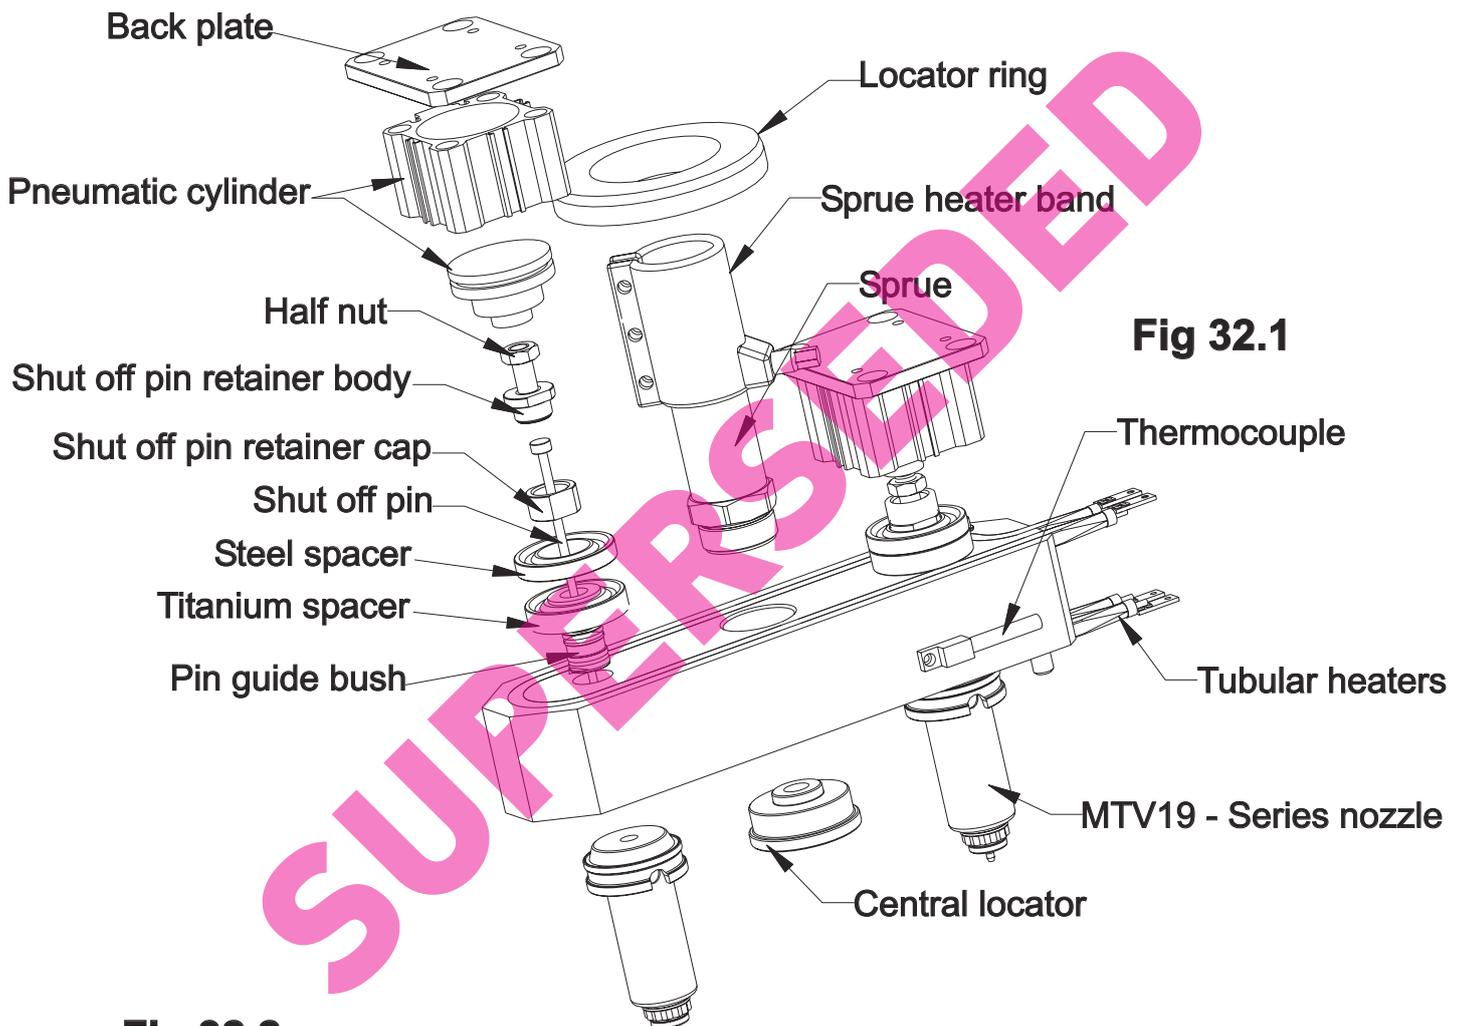
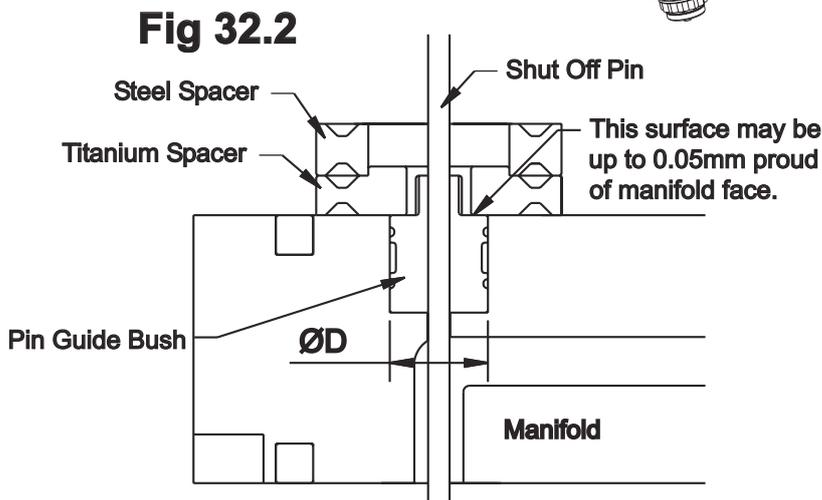

Fig 32.1
Fig 32.2
2. Assemble the **MASTIP** manifold, pin guide bush, steel spacer and titanium spacer, (refer Fig. 32.1). The pin guide bush should be a snug fit in the manifold bush hole (Dia. D), with a maximum clearance is 0.02mm. The top face of the bush should be slightly proud of the manifold top face (0.01-0.05mm) to aid sealing. See Fig 32.2. The shut-off pin should be an extremely snug fit in pin guide bush, having a slight frictional resistance to the movement of the pin.